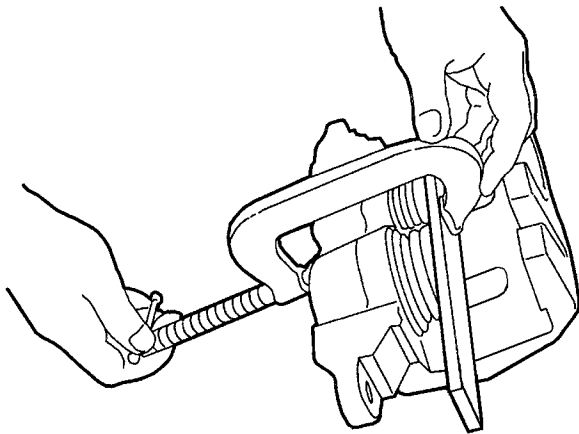

Figure 20 Push Both Pistons Into Caliper
12. Position a metal plate over both caliper pistons, then use a "C" clamp to push both pistons into the caliper (Figure 20). Pushing the caliper pistons into the caliper will provide clearance for new disc brake pads when caliper is rotated back into position.